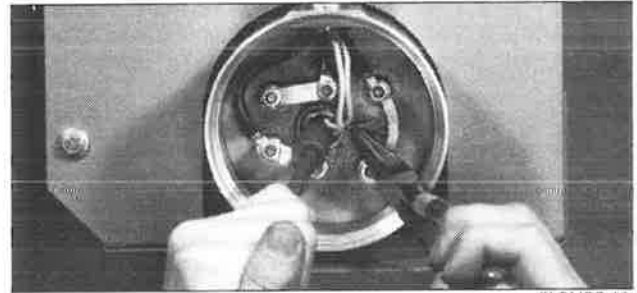

FIGURE 12
4. Reinstall the temperature high-limit assembly with the snap ring and spring into the thermowell without damaging the insulating tube. Secure in place with the cotter pin (see Figure 12).